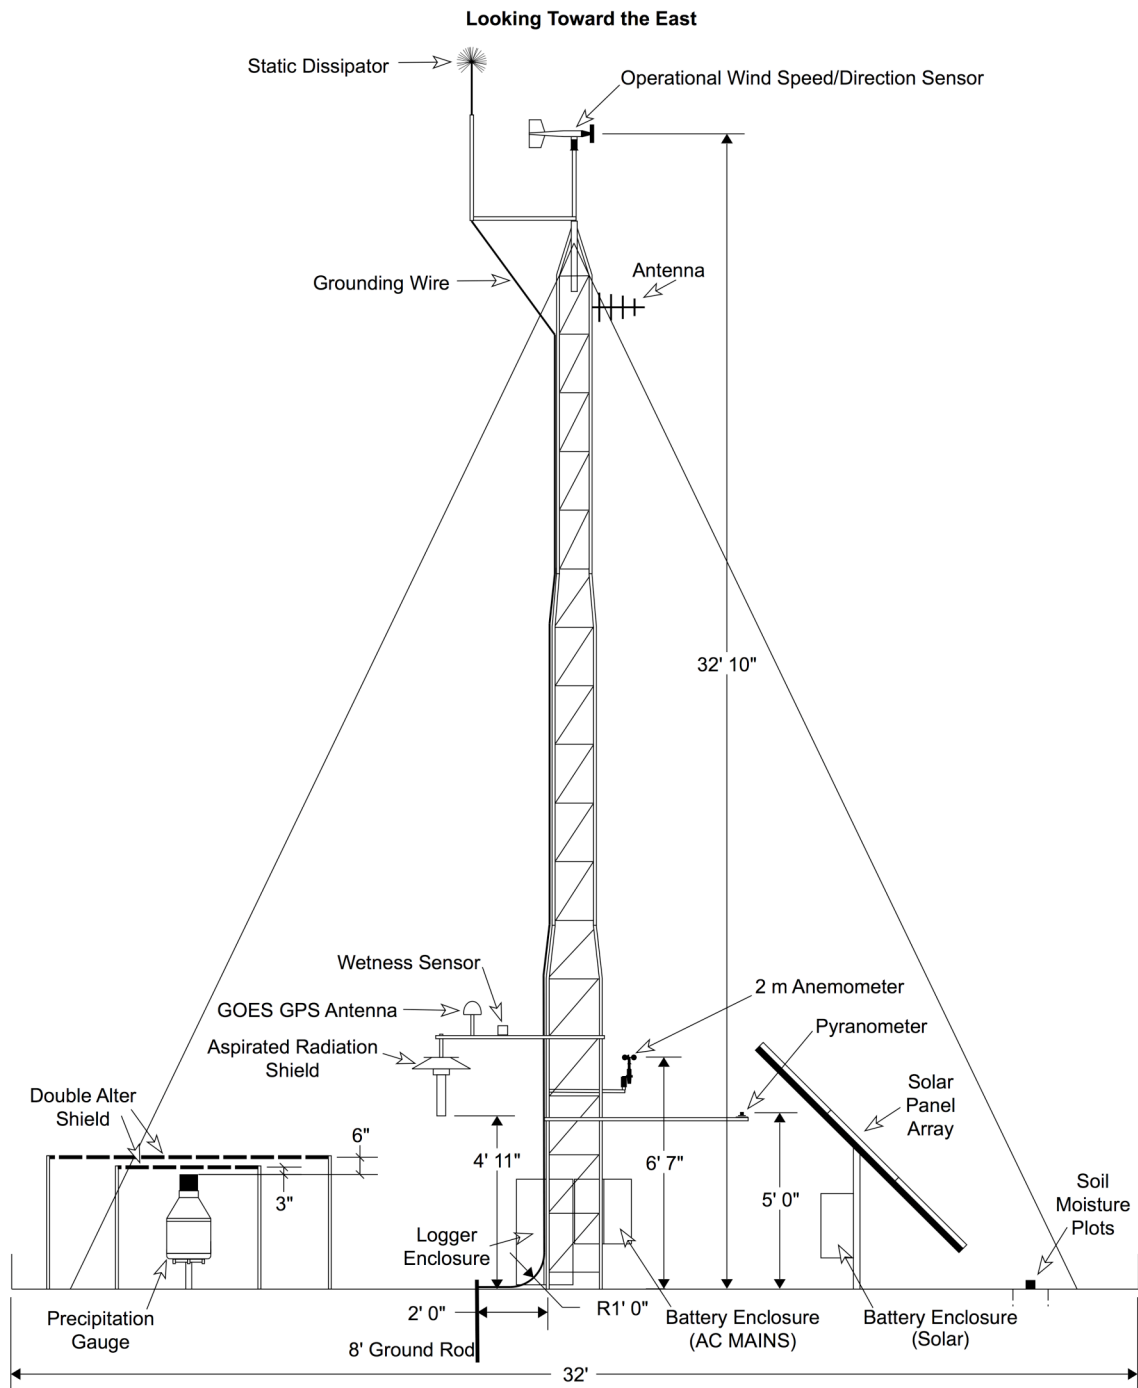

Figure 13. Profile view of a station plot that measures 32-by-32 feet and has a tall tower.
Note: Refer to Figures 13 thru 15 below for the positions and configuration of the equipment. In addition, these procedures cover installation for all possible sensors that could be installed at a tall tower site; not all of these sensors will be installed at every site.
24. Attach the aspirated radiation shield for the air temperature and relative humidity sensor(s) to the end of its mounting arm, as shown in Figures 13 and 14. Mount the arm to the west-facing flat edge of the tower, with the shield's air inlet 4 feet 11 inches (1.5 meters) above the level of the ground directly below. Install the air temperature sensors and the relative humidity sensor, if provided, and connect them to the logger. Coil and secure any excess cable to the tower near the logger enclosure.